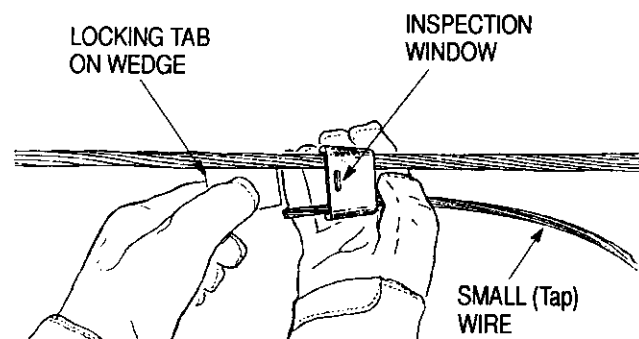

Figure 3
3. Push wedge into "C" member, making sure that the locking tab on wedge is on the same side as the inspection window of the "C" member. Strike wedge with pliers to hold wedge in place. See Figure 3.
- Revised NOTE following Figure 3